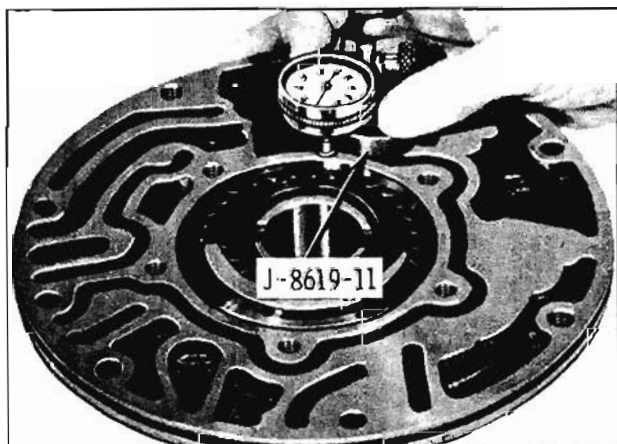

Fig. 6-336 Checking End Clearance
- d. With dial indicator set, check end clearance. The clearance allowed is .005" to .015". (Fig. 6-336)